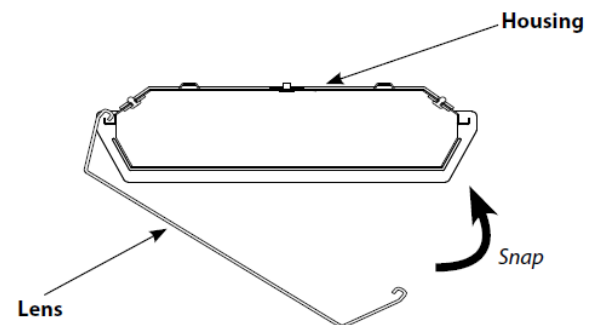

Fig. 2
- g. Place the reflector back on. Be careful not to pinch the wires. Hook the lens to one side of the housing and snap the lens into place. See **Fig. 2**.